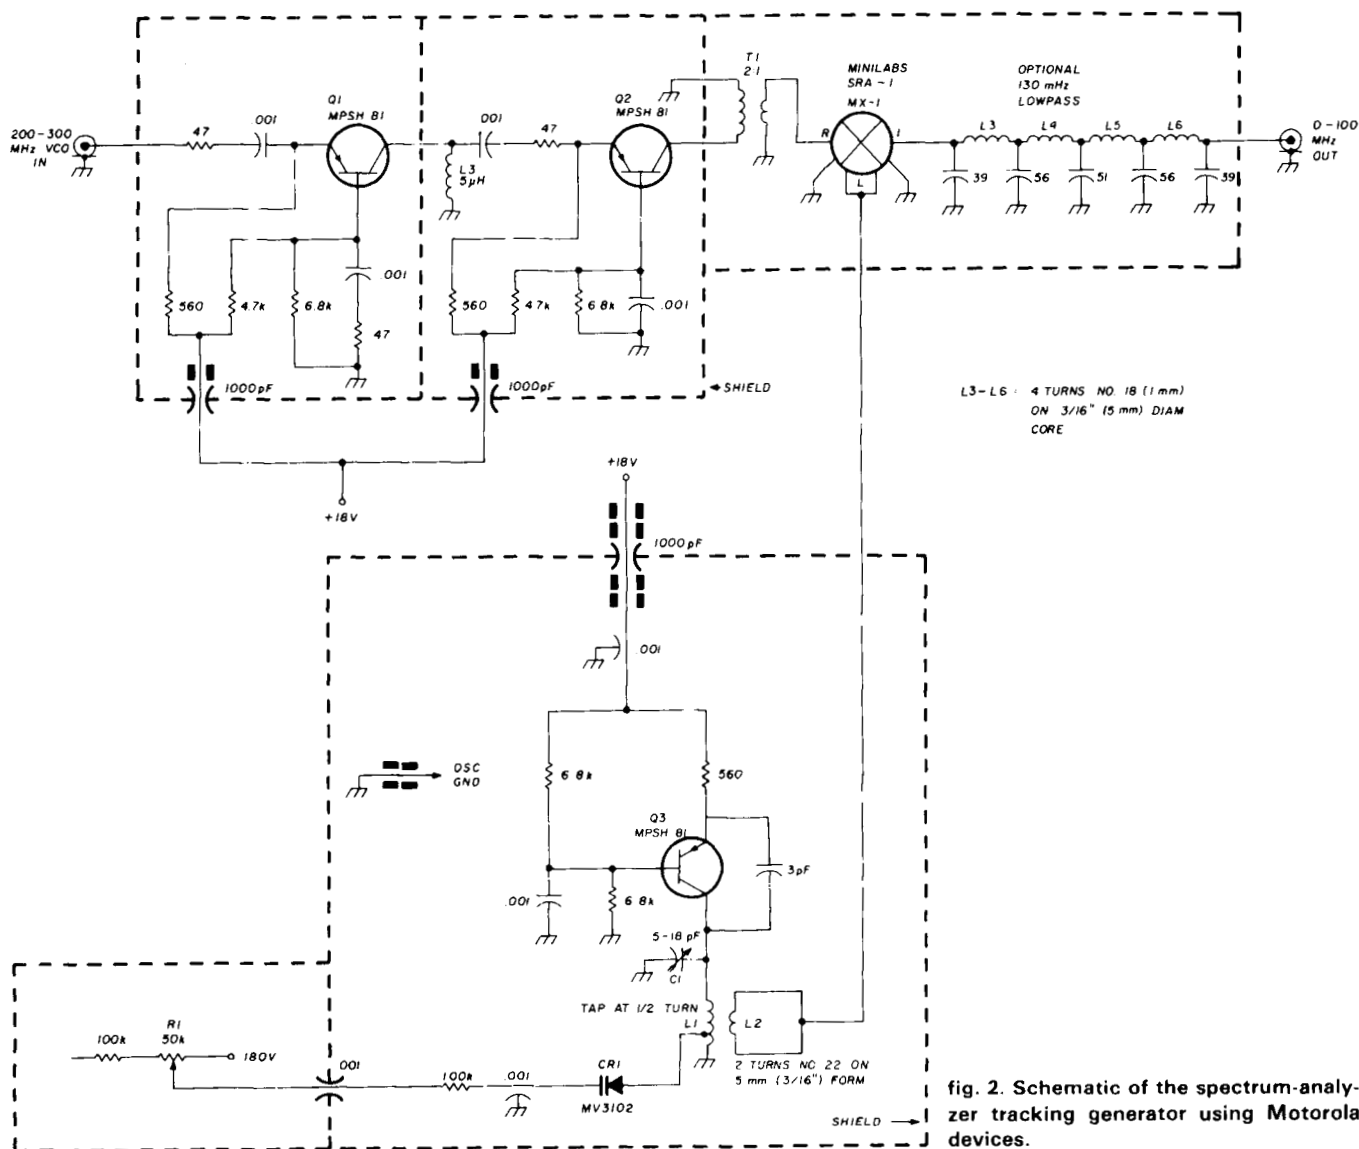

fig. 2. Schematic of the spectrum-analyzer tracking generator using Motorola devices.
The schematic is shown in **fig. 2**. Q1 and Q2 provide some gain and isolation between the 200-MHz oscillator, Q3, and the first i-f amplifier of the spectrum analyzer. R1 provides fine tuning and should be located for easy access by the operator. MX1 mixes the 200-MHz output with the signal from the first local oscillator to provide the 100-kHz to 100-MHz tracking signal. An optional 130-MHz lowpass filter is shown. The lowpass filter attenuates the 400-500 MHz component generated by the mixer in the tracking generator.
**Fig. 2** shows an excellent method of obtaining a constant-current from a common three-terminal voltage regulator. The three-terminal voltage regulator would normally have its common terminal grounded and would deliver a constant voltage between the output and common terminal. However, if the common line is not grounded, but left floating, and a fixed resistance is connected from the output to the common terminal, the regulator will try to furnish a fixed voltage across the resistance. The current through the resistor is given by Ohm's law:
**fig. 2.** An excellent constant-current regulator using a popular 3-terminal voltage-regulator IC. Current source is determined by  $R1$ . For a 7805 IC,  $V$  is 5 volts. Thus for  $R = 50$  ohms,  $I = 50$  mA constant current.